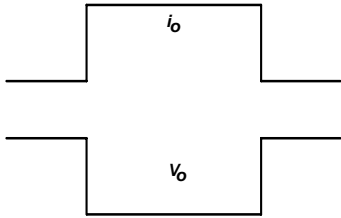
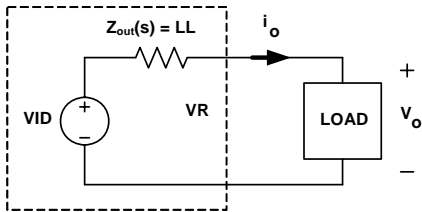

FIGURE 18. DESIRED LOAD TRANSIENT RESPONSE WAVEFORMS
FIGURE 24. VOLTAGE REGULATOR EQUIVALENT
Assuming the compensator design is correct, Figure 18 shows the expected load transient response waveforms if C_n is correctly selected. When the load current I_{core} has a square change, the output voltage V_{core} also has a square response.
Figure 18 shows the desired load transient response waveforms. Figure 24 shows the equivalent circuit of a voltage regulator (VR) with the droop function. A VR is equivalent to a voltage source (= VID) and output impedance $Z_{out}(s)$. If $Z_{out}(s)$ is equal to the load line slope LL, i.e. constant output impedance, in the entire frequency range, V_o will have square response when I_o has a square change.